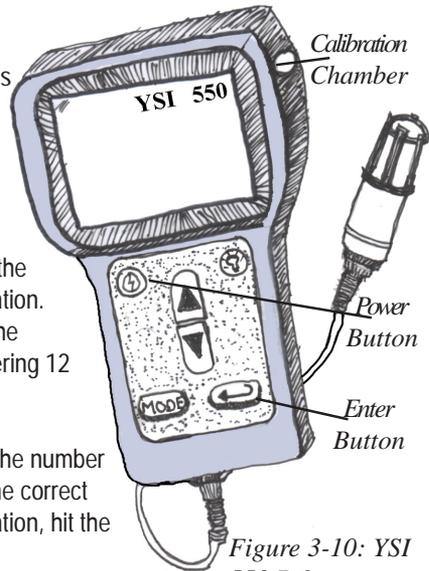

Figure 3-10: YSI 550 DO meter.
2. Press and release the mode button (Figure 3-10) until the display reads in %.
2. Fill the Direct Reading Titrator (syringe 0377) with *Sodium Thiosulfate, 0.025N (4169). Insert the titrator into the center hole of the titration tube cap (Figure 3-10). While gently swirling the tube, slowly press the plunger to titrate until the yellow-brown color is reduced to a very faint yellow. *See following section on How to Use and Fill Titrator pg 3-29 and 3-30).*